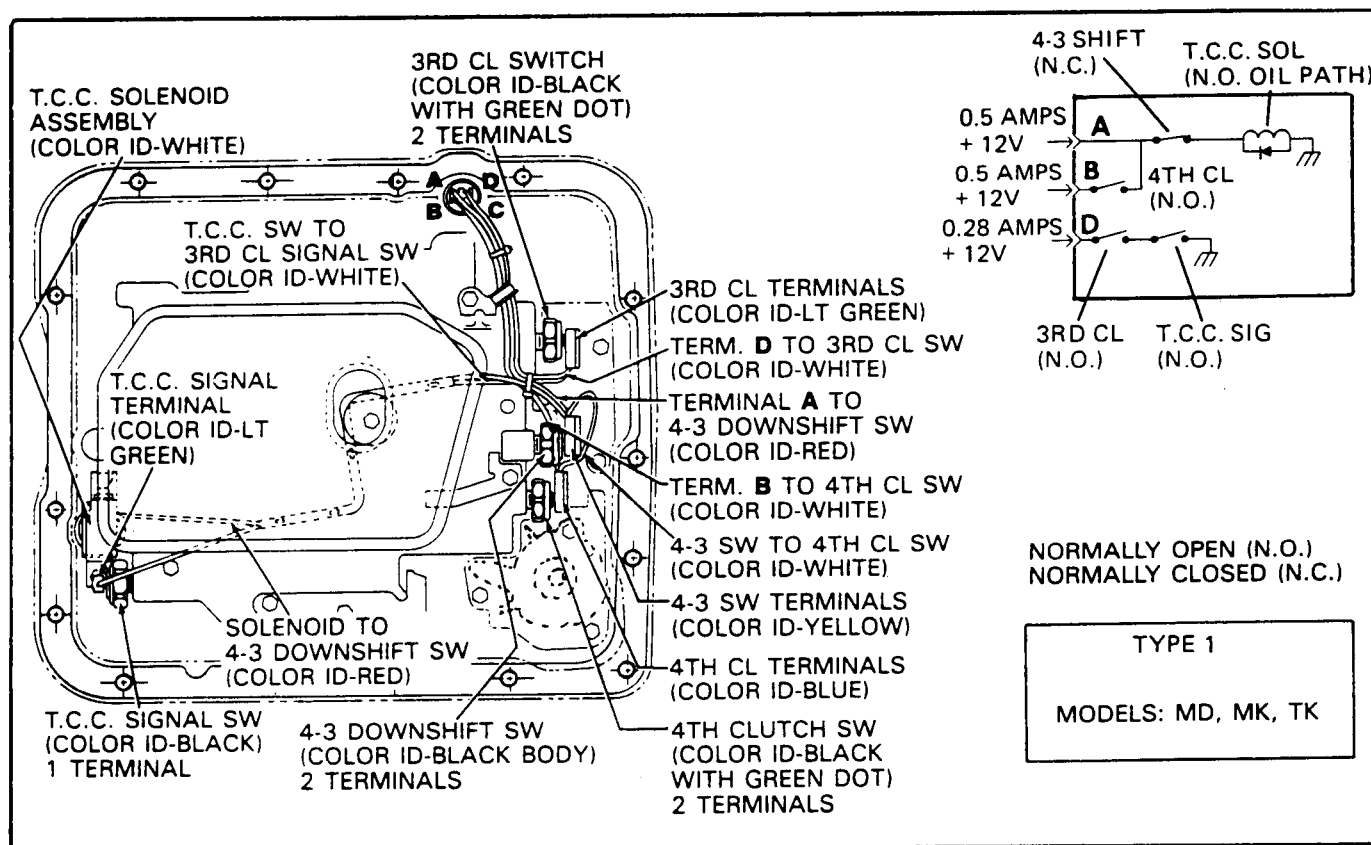

FIGURE 6 Type 1 Wiring Diagram
1. Color of the insulator (See Figure 6)
2. Last four digits of the OEM part number will be cast into the top of the insulator (See Figure 6).